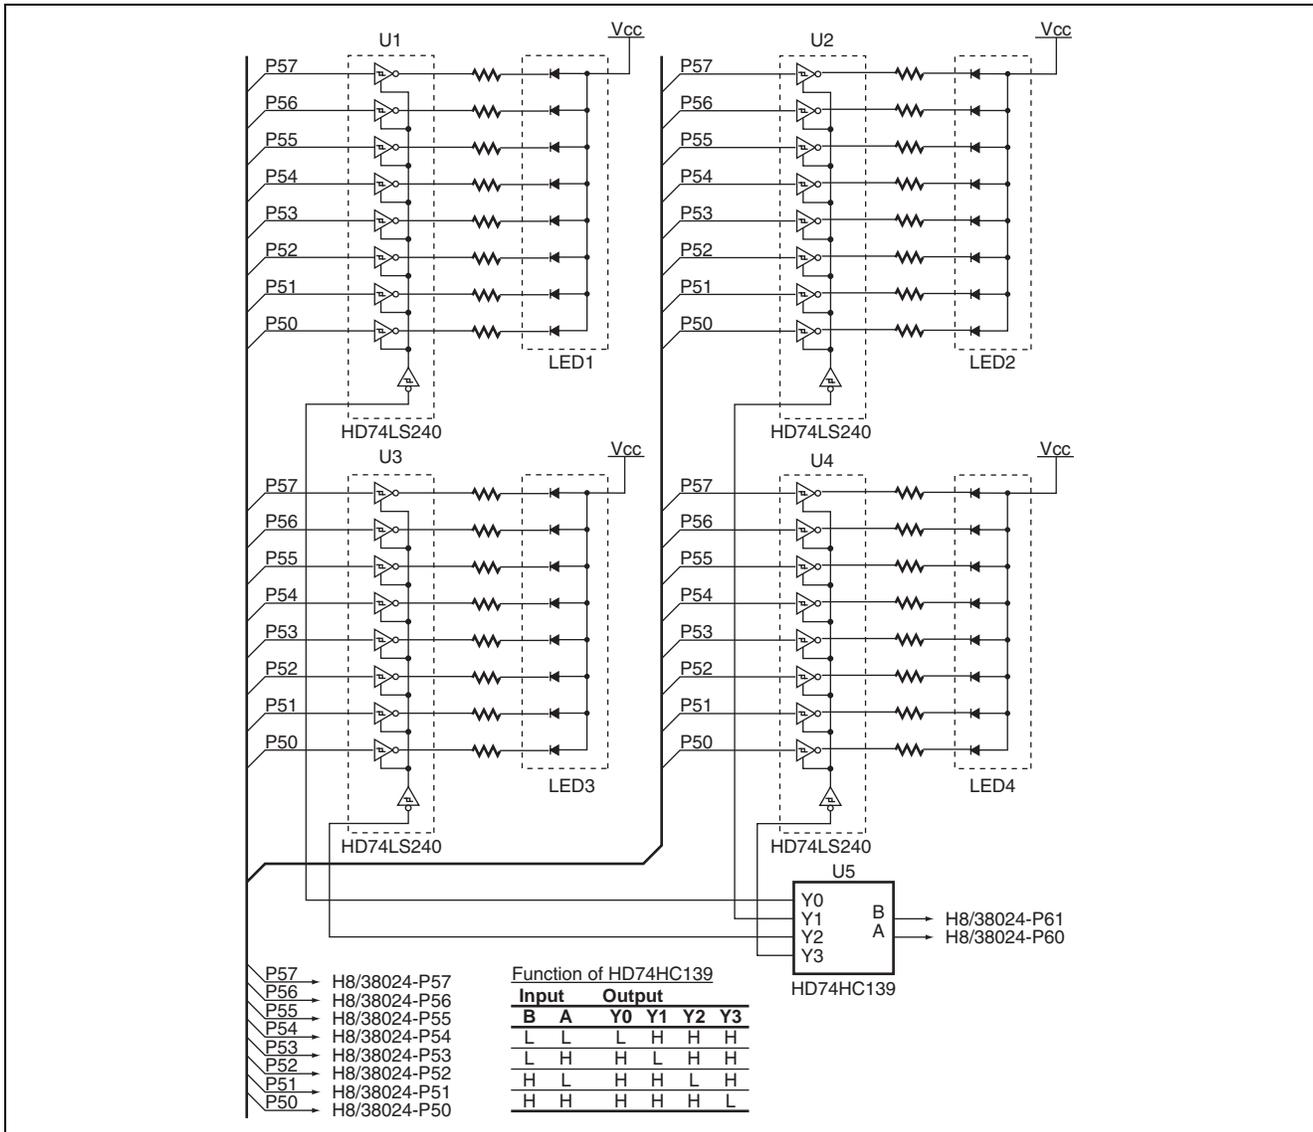

Figure 1.3 Control of 7-Segment LEDs
8. In this sample task, display on the 7-segment LED is handled by attaching port outputs to the inputs to the tri-state-output inverter drivers (HD74LS240), and the driver outputs are in turn connected to the cathodes of the 7-segment LEDs. The port outputs are connected to each of the four 7-segment LEDs to control the display on the LEDs. The enable pins of the tri-state inverter driver control switching of display on the 7-segment LEDs. The signals used to switch the display are generated by the 2-to-4-line decoder (HD74HC139), which is controlled by two port-pin outputs. Figure 1.3 shows how the 7-segment LEDs are controlled.